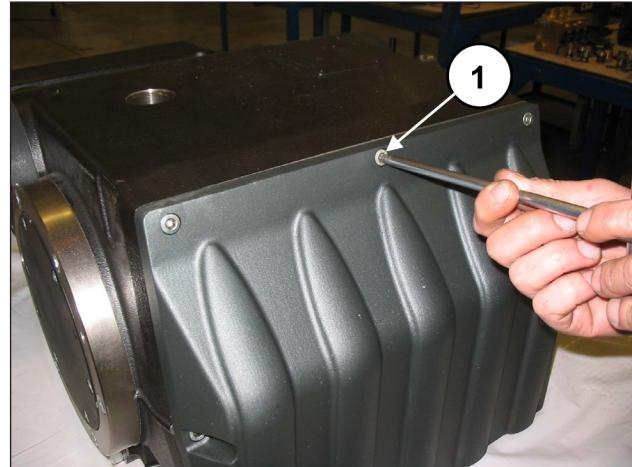

Fig. 9
Unscrew the casing cover fixing screws (pos. ①, Fig. 9) and remove it. Remove the O-ring and replace it if necessary.